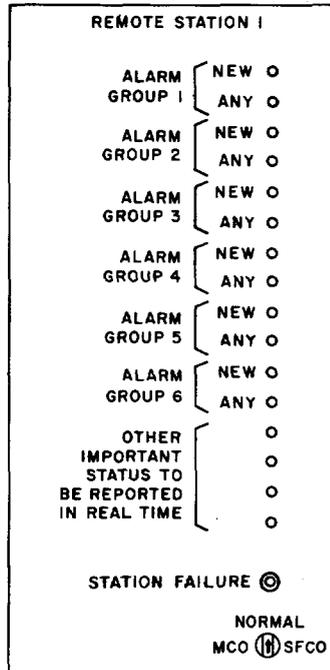

Fig. 7—Alarm Display Typical Lamp Assignment
**2.03** The lamps on the alarm display panel may represent individual status indications or alarm groups. If alarm grouping is used, a number of status indications at a remote station are combined to give two common indications. One of these indicates whether one or more of the status indications within an alarm group are in the abnormal state ("any" alarm). The other indicates when any one of these indications changes from the normal to the abnormal state ("new" alarm). This provides the central with an indication when any of the alarms are present and when a new alarm occurs. A typical alarm lamp assignment for a remote station is shown in Fig. 7.
**2.04** Assuming that an alarm condition is associated with the major alarm relay and the lamp assignment shown in Fig. 7 is used, the following